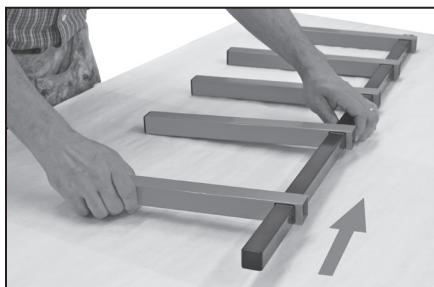

Figure 2
- Insert a screw into the next hole up, then slide another orange bar into position. Continue this process until all the bars are fitted, being careful that all the notches face down. Repeat this process for the other side. Figure 2.